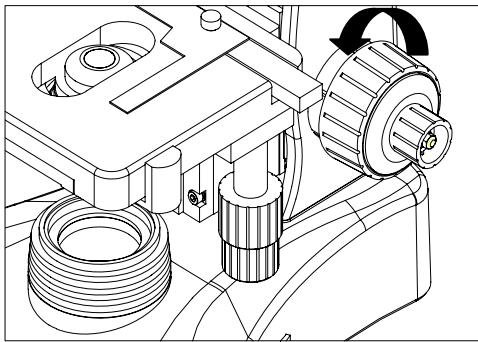

Fig.5
**2.2.3 Installing objectives (Fig.5& 6)**